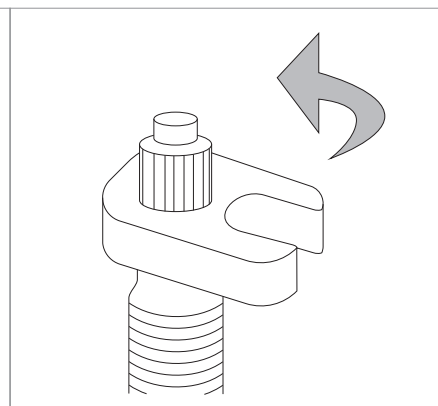

Fig.18
- If you are able to insert the liquid using a syringe: remove the central part of the valve using a suitable tool, insert the quantity of liquid suggested by the manufacturer and reinstall the central part of the valve (Fig.18).